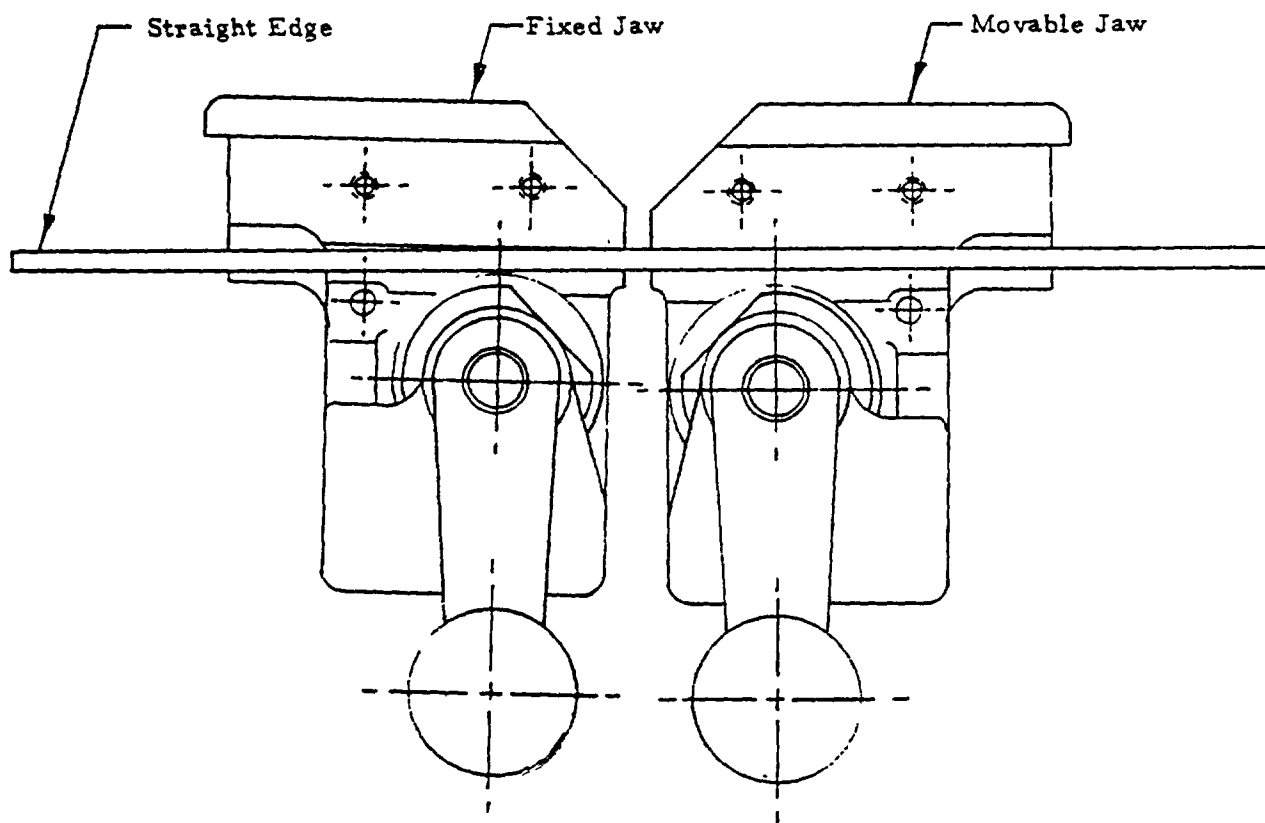

FIG. 2
2. Fig 2 is an example of inclination misalignment as checked with a straight edge. The fixed jaw must be moved to correct this problem. Loosen the mounting screws and move the jaw as required. The mounting screws are located inside the welder case - behind the fixed jaw.